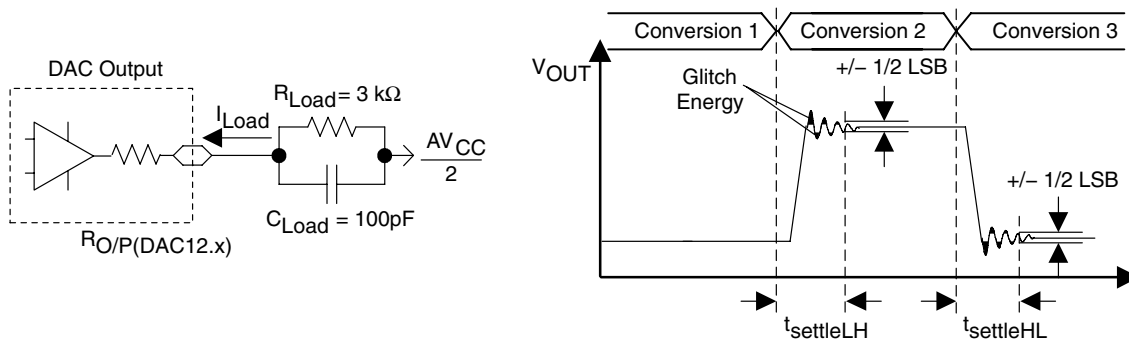
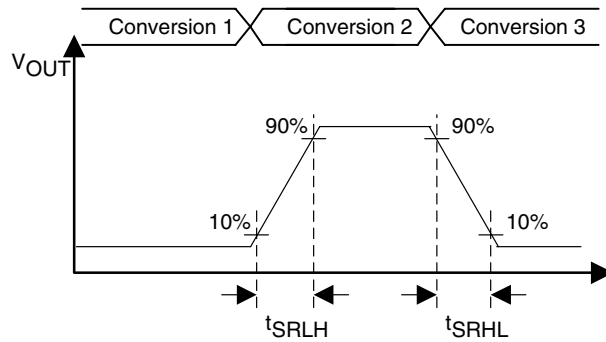

Figure 16. Settling Time and Glitch Energy Testing
Figure 17. Slew Rate Testing
## 12-bit DAC, dynamic specifications, VREF,DAC12 = AVCC, DAC12IR = 1 (see Figure 16 and Figure 17)
- NOTES: 1. RLoad and CLoad connected to AVSS (not AVCC/2) in Figure 16.